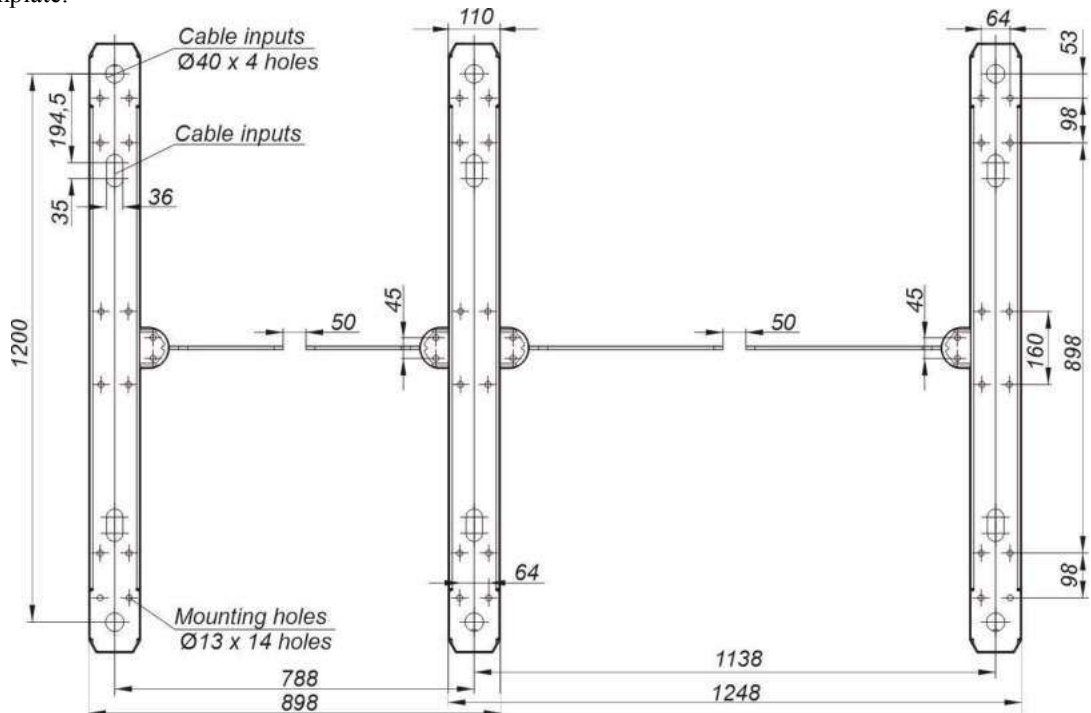

Fig. 16 – Installation dimensions of the "SWEEPER-S-HG-1" and "SWEEPER-S-HG-2" turnstiles set
- 5) The turnstile fixation holes to be marked on the area surface according to Figure 16. The turnstile it self can be used as a template.
10) The cable outlet location to be aligned with the hole on the turnstile mounting plate (Fig.16).
- 4 align fixation holes at the turnstile bottom plate with the prepared surface holes according to the marking shown in Fig.16; The turnstile to be fixed by means of anchors included in the scope of delivery;